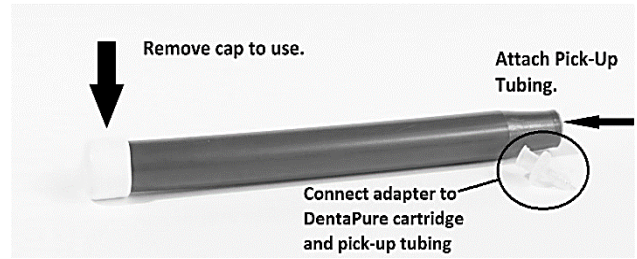

Fig. 2
- 4 Attach supplied female connector to DentaPure cartridge. Attach DentaPure cartridge onto pick-up tubing. (Fig. 2)